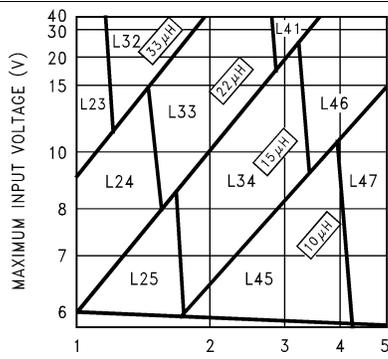

Figure 17. LM2678-3.3
Step 3: Determine the inductor required by using one of the four nomographs, Figure 17 through Figure 20. Table 3 provides a specific manufacturer and part number for the inductor.
Step 5: Determine an input capacitor from Table 5 for fixed output voltage applications. Use Table 1 to find the specific capacitor type. For adjustable output circuits select a capacitor from Table 1 with a sufficient working voltage (WV) rating greater than V_{IN} max, and an RMS current rating greater than one-half the maximum load current (2 or more capacitors in parallel may be required).
Step 3: Use the nomograph for the 3.3-V device, Figure 17. The intersection of the 16-V horizontal line ($V_{in \text{ max}}$) and the 4-A vertical line ($I_{load \text{ max}}$) indicates that L46, a 15- μH inductor, is required.